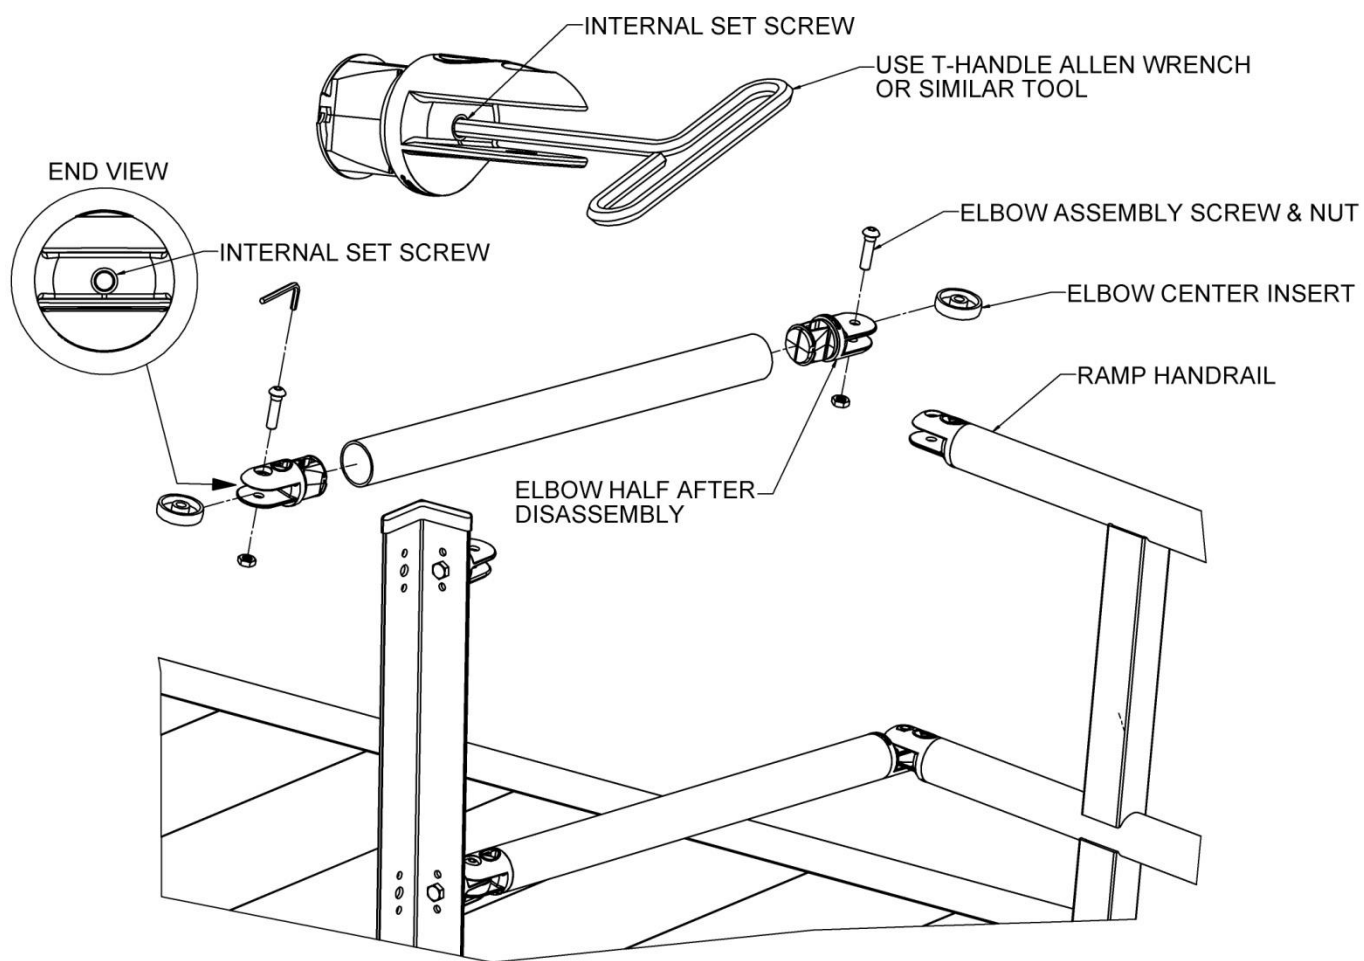

FIG. 6.11
- 6.2.8. Disassemble adjustable elbow by removing the screw and nut (FIG. 6.11).
- 6.2.9. Install an elbow half into each end of the cut tube (FIG. 6.11).
- 6.2.10. Tighten internal set screws a T-handle Allen wrench or similar tool (FIG. 6.11).